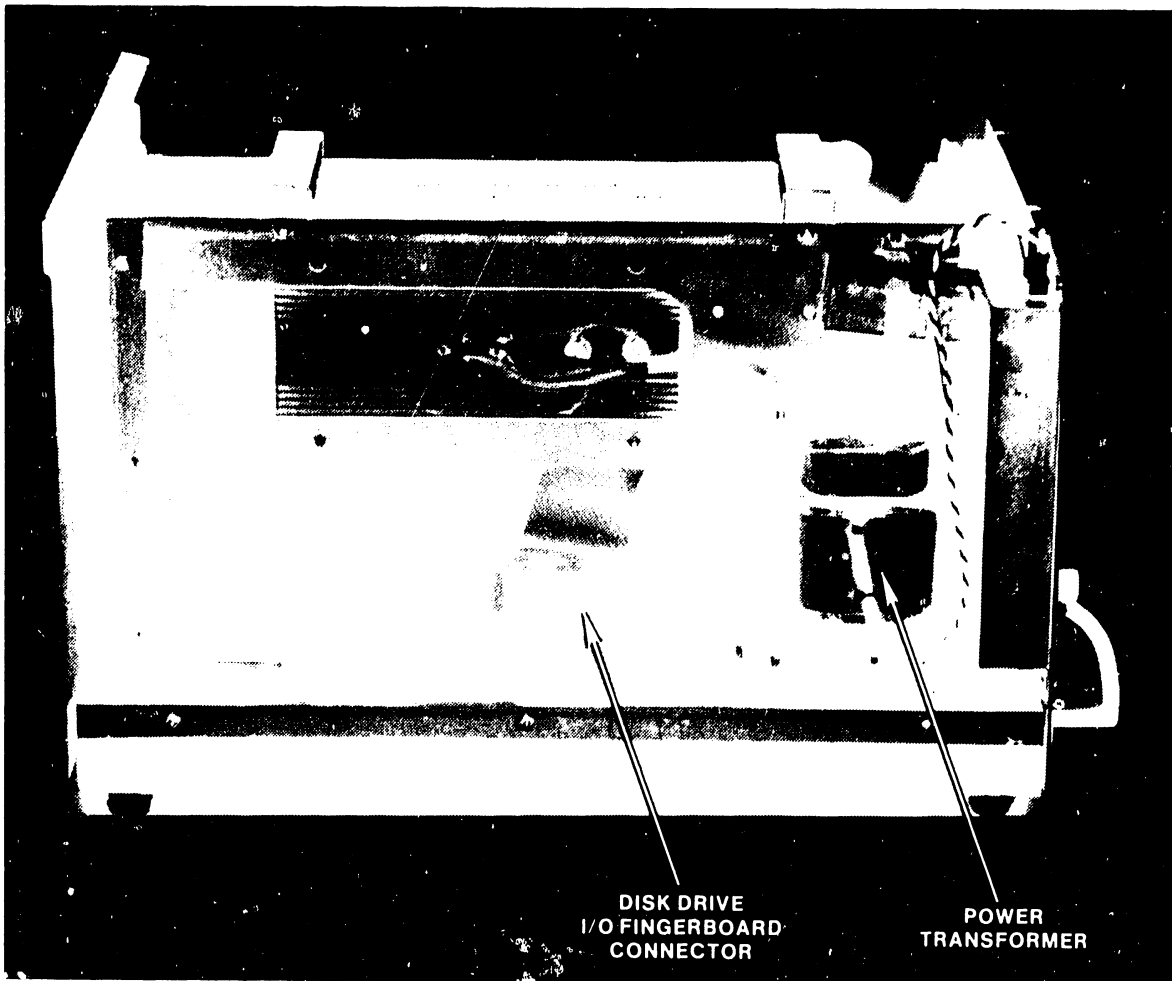

Figure 4-6 Power Transformer and Disk I/O Connection at Motherboard
4. Confirm that the power supply transformer (mounted next to the Power Supply Regulator card on the right wall of the card cage) matches the available power service and that the correct fuse is installed: (Refer to Figure 4-6)
5. Verify that the cables associated with the Disk Drive are all plugged securely into their proper connectors. These connections include the I/O cable connection on the Motherboard, the ac power connection at the rear of the Disk Drive and the dc power harness also at the rear of the Disk Drive. These connections are shown in Figures 4-6 and 4-7.